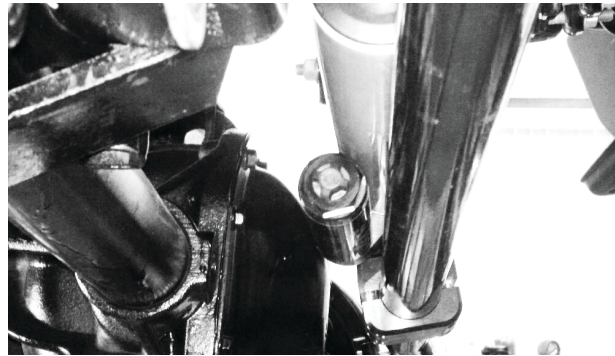

Fig. 5: 135 degree reservoir orientation on some 2012 and newer applications.
9. If interference issues exist and cannot be resolved by rotating the tie rod clamp, rotate the stabilizer reservoir. If installing stabilizer on 2012 and newer model with stock suspension or with less than a 2.5" lift and aftermarket 1 1/4" bump stop extension, the stabilizer reservoir must be rotated for clearance. Loosen the pinch bolt on the L-bracket between the stabilizer and track bar clamp, rotate reservoir approximately 135 degrees down and toward rear of vehicle. Torque pinch bolt to 12 lb-ft. (Fig. 5).